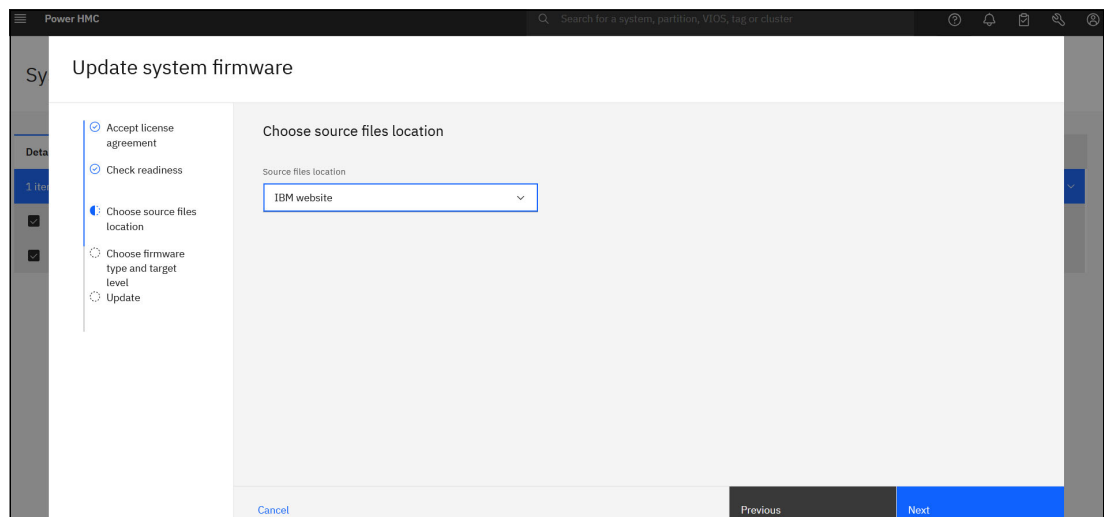

Figure 8-9 The Choose source file location drop-down menu used for updating the system firmware
7. Figure 8-9 illustrates the Choose source files location drop-down menu, which is used to update the system firmware. Several options are available for loading the required update files: